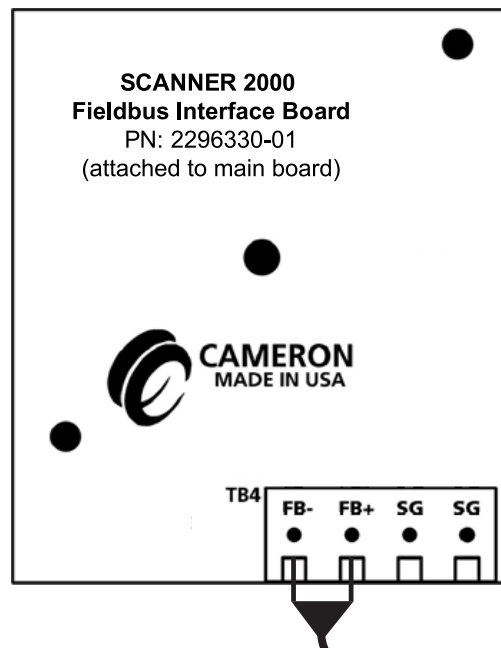

Figure 3.4—FOUNDATION™ fieldbus power supply wiring without terminal housing
6. Connect the FOUNDATION™ fieldbus power cable to TB4 on the fieldbus interface board. See Figure 3.4, page 49.
The Scanner 2000 is bus-powered by a FOUNDATION™ fieldbus power supply. A two-conductor cable connects the power supply to the fieldbus interface board inside the Scanner 2000 enclosure. Route the cable through the conduit opening in the top of the enclosure and wire as shown in Figure 3.4. If a terminal housing is in use, fieldbus power may be wired as shown in Figure A.6, page A-5.